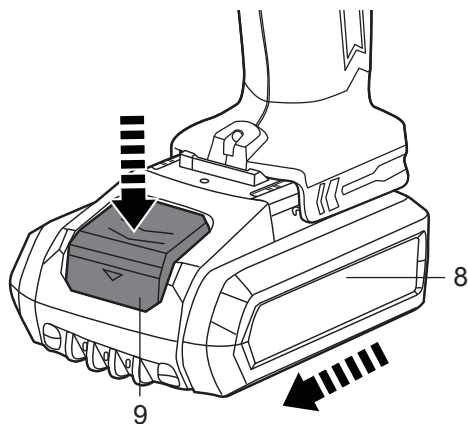

Fig. 4
- > Lock the ON/OFF switch (6) to avoid accidental starting by moving the forward / reverse rotation control (5) into the middle position (see section "Product functions – Forward / reverse rotation control").
- > To remove the battery, press the release button (9) and pull out the battery pack (8) from the product (Fig. 4).